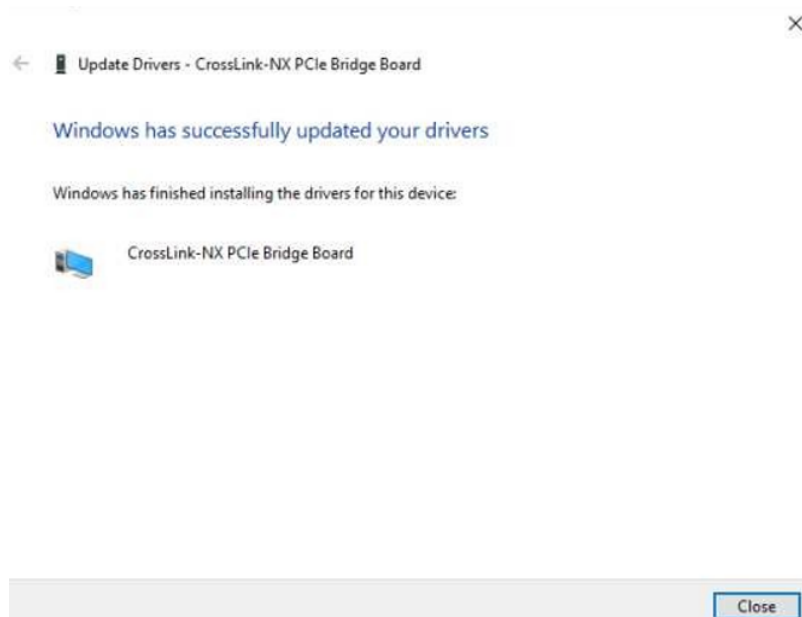
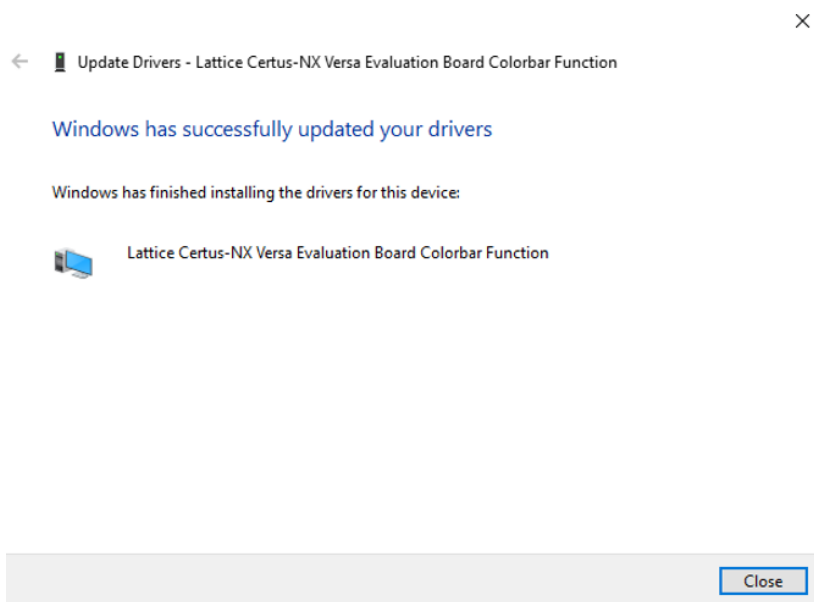
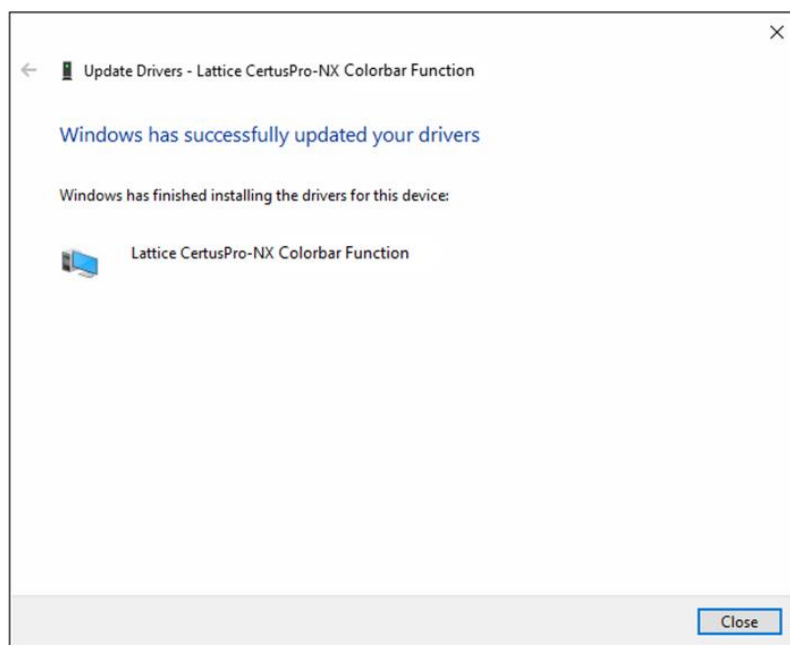

Figure 3.40. CrossLink-NX Driver Installation Status Message
Figure 3.41. Certus-NX Driver Installation Status Message
Figure 3.42. CertusPro-NX Driver Installation Status Message
8. If the driver is installed successfully, a message is displayed as shown in Figure 3.40 for CrossLink-NX devices, Figure 3.41 for Certus-NX devices, and Figure 3.42 for CertusPro-NX devices.